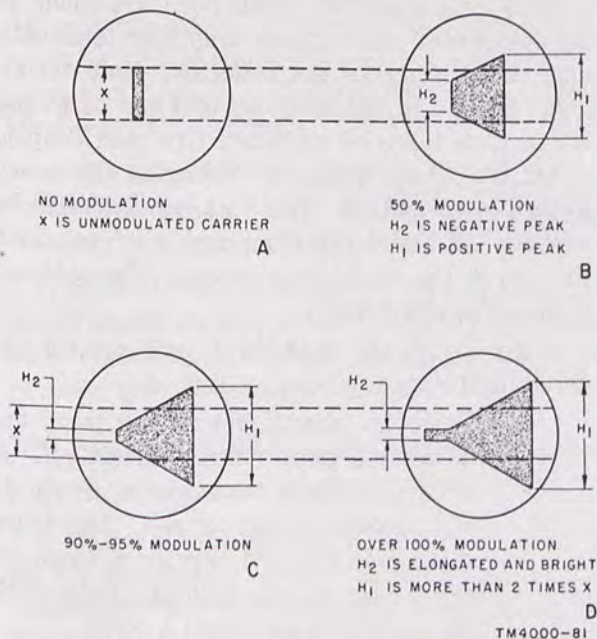

Figure 91. Trapezoidal modulation patterns.
- (1) Turn the transmitter on but leave the modulator gain control turned off. A vertical trace as shown in A, figure 91 will appear on the screen. The trace represents the RF carrier voltage. It can be set to the desired height with the oscilloscope vertical control.
- (2) Turn up the modulator gain control;
Count the number of divisions that the modulating voltage causes the carrier amplitude to increase or decrease from its former level X. This is indicated by H_1 and H_2 , respectively, in figure 91. Substitute that value in the formula below and calculate the percentage of modulation.